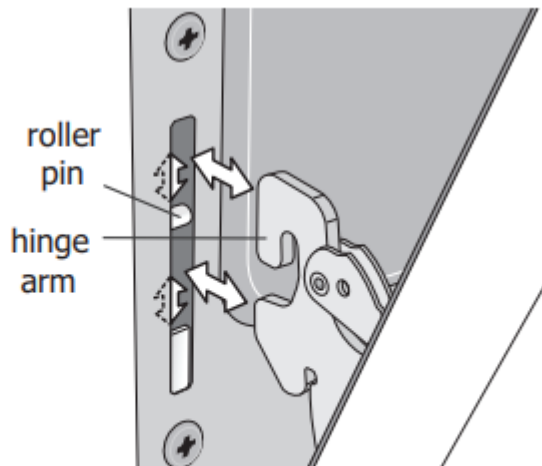

Figure 10: Remove door position
4. Pull the bottom of the door toward you while rotating the top of the door toward the appliance to completely disengage the hinge levers (Figure 10).